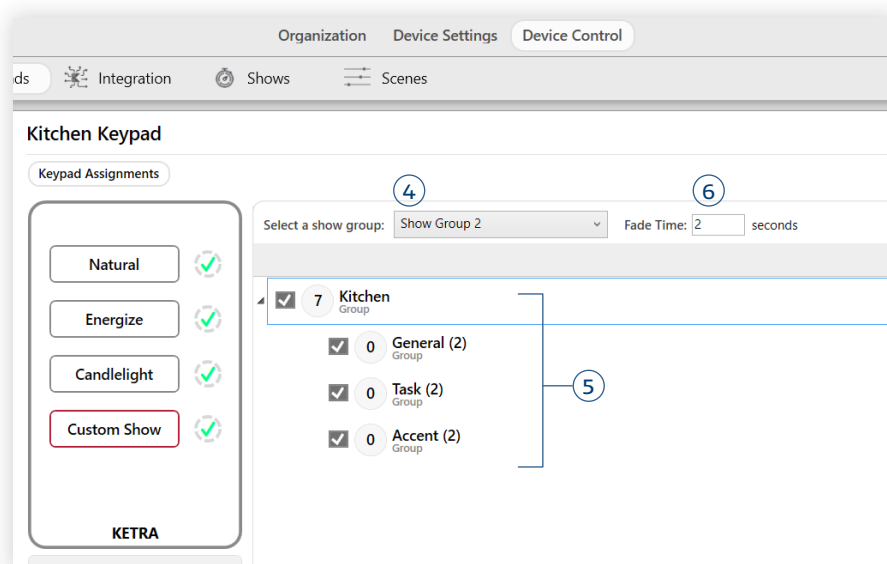

fig. 52
- 4 Select a show group ID to assign. See fig. 52.